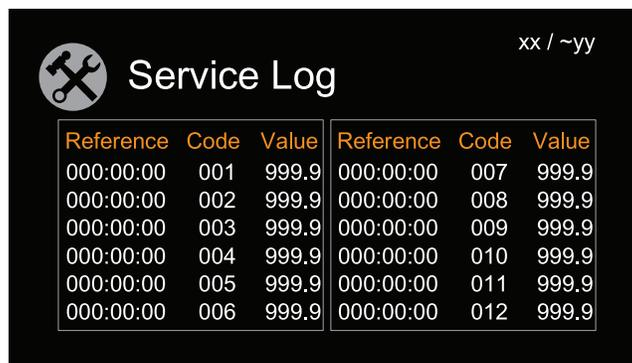

Figure 4 – Service log
2. Review the service log and clear (Figure 4).
Note - In the upper right hand corner of the service log screen (Figure 4), xx is the current page number. The yy displays the total number of service log pages.